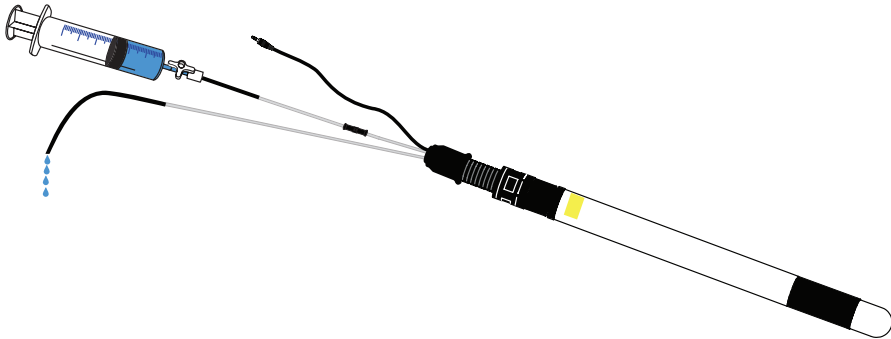

Figure 15 TERS 32 refilling
9. For a downward installation, connect the syringe to the marked refilling tube from TEROS 32 (Figure 15).
Continue to push the water into the sensor until only water comes out of the other refilling tube (Figure 15).